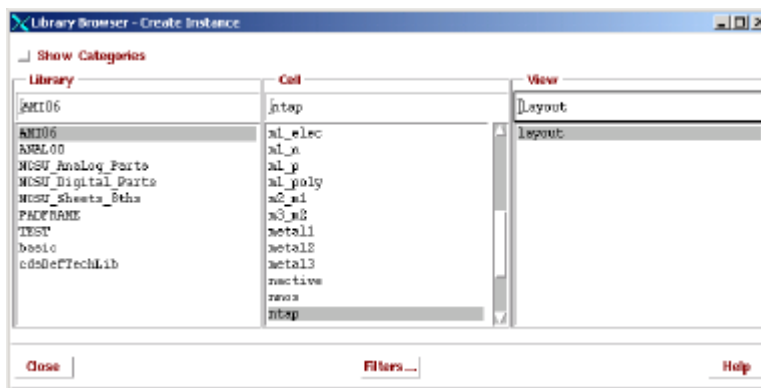

Figure 67: Browsing for the ntap.
3. Click on Browse and a pop-up like Figure 67 should appear.
4. Select ntap like in Figure 67.